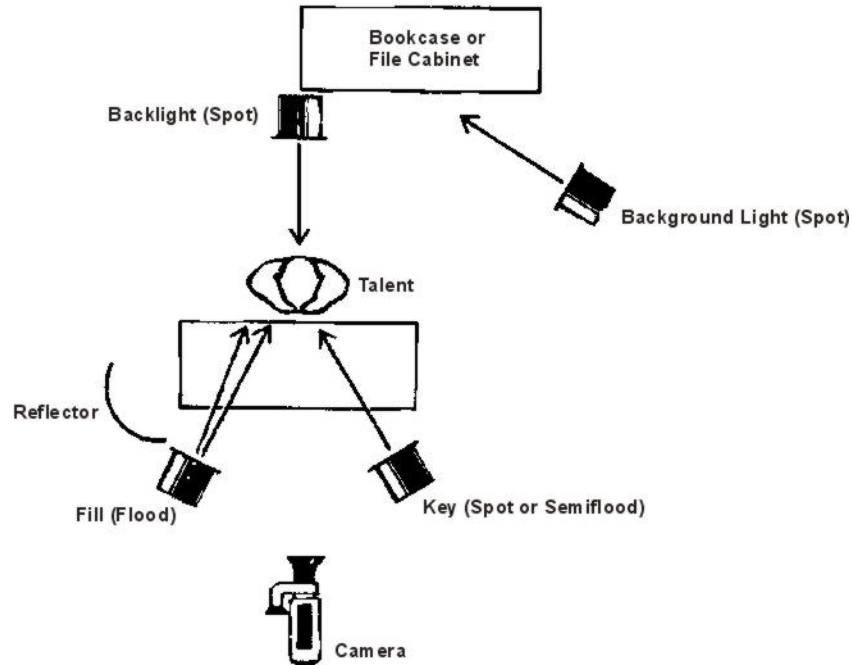

Figure I-20. Remote Setup
f. When time and equipment are available, the same basic lighting principles are used in field lighting as are used in the studio. If you refer to Figure I-20, you see 3-point lighting set up the same way it would be set up in the studio. In this situation, however, the portable lights are of a type that can be placed in either the spot or flood position. This lighting also shows the use of a background light.
(1) It is worth noting that the background light is positioned on the same side of the subject as the key light. This is because the lighting should appear to be coming from the same direction, as if the sun was illuminating the scene. You will remember that in 3-point lighting, the key light is the primary light source; therefore, in order to maintain directional continuity in our lighting, it stands to reason that any background lighting should come from the same direction as the key light.
(2) Figure I-20 also show an alternative to using three lights to accomplish 3-point lighting. If you cannot use more than three instruments due to electrical power restrictions, a reflector can be used in place of the fill light. The reflector will bounce enough light back on the subject to adequately fill in the shadow areas cast by the key light.